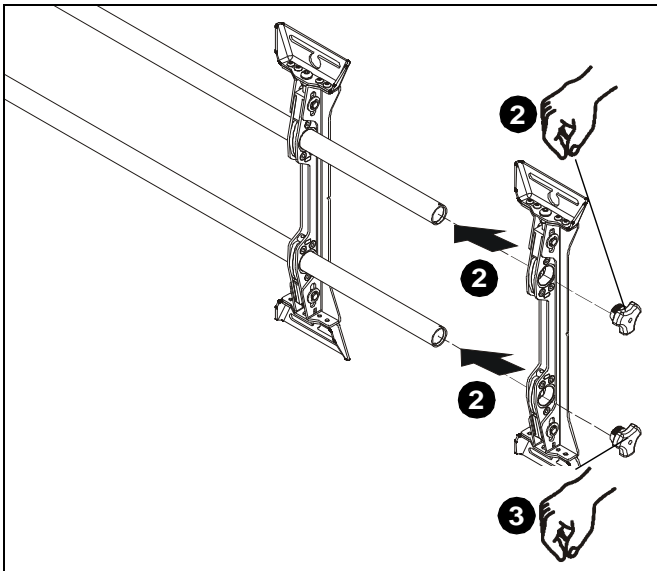

Figure 2
2. Slide FCA wall plate (A) onto XTM1U/XSM1U mount rails. (See Figure 2)
3. Reinstall caps onto mounting rails. (See Figure 2)